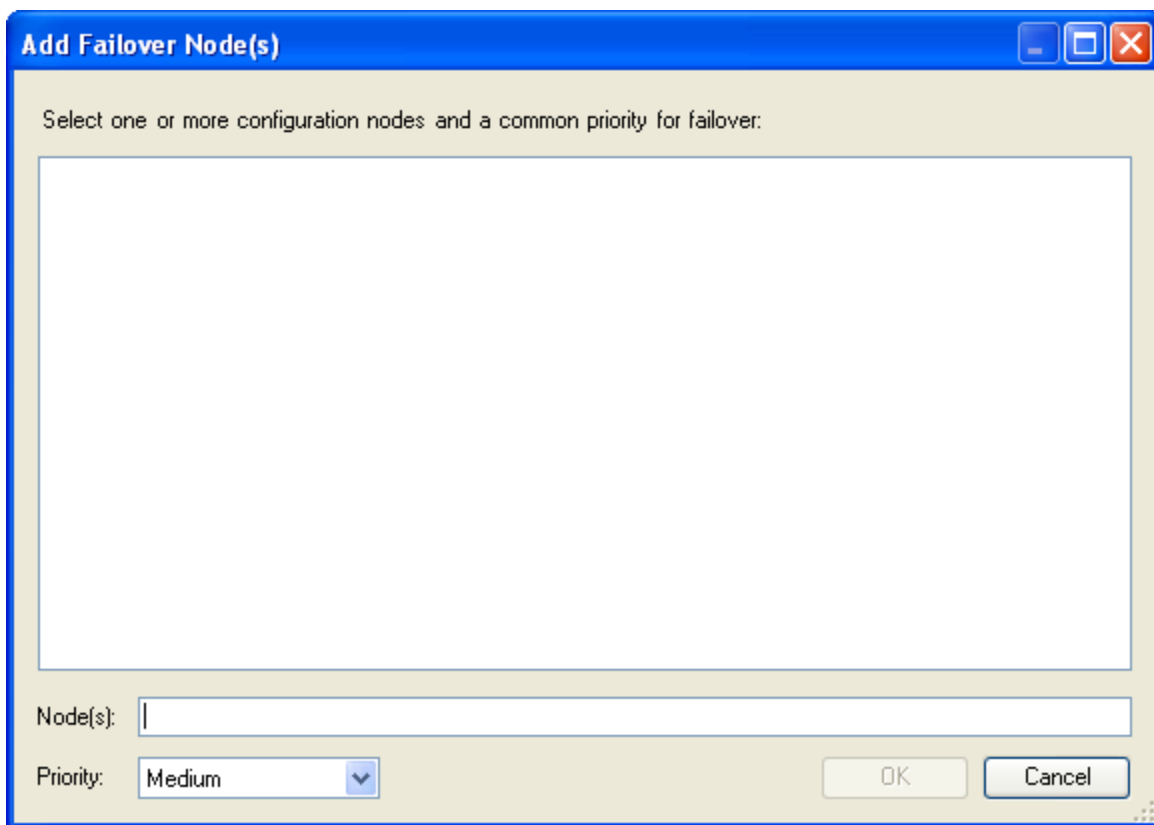

Figure 49 - Add Failover Node(s) Window
Add Failover Node(s)	Select this button to access the Add Failover Nodes(s) window (Figure 49) which allows you to define one or more Failover nodes and assign a priority to them. After defining the list of nodes, they will appear listed in the Failover Nodes section of the New Redundancy window. Note: Once you have added a node, you can make changes to it, or delete it, or change its order within the list.
- b. The **Add Failover Node(s)** window (Figure 49) appears.